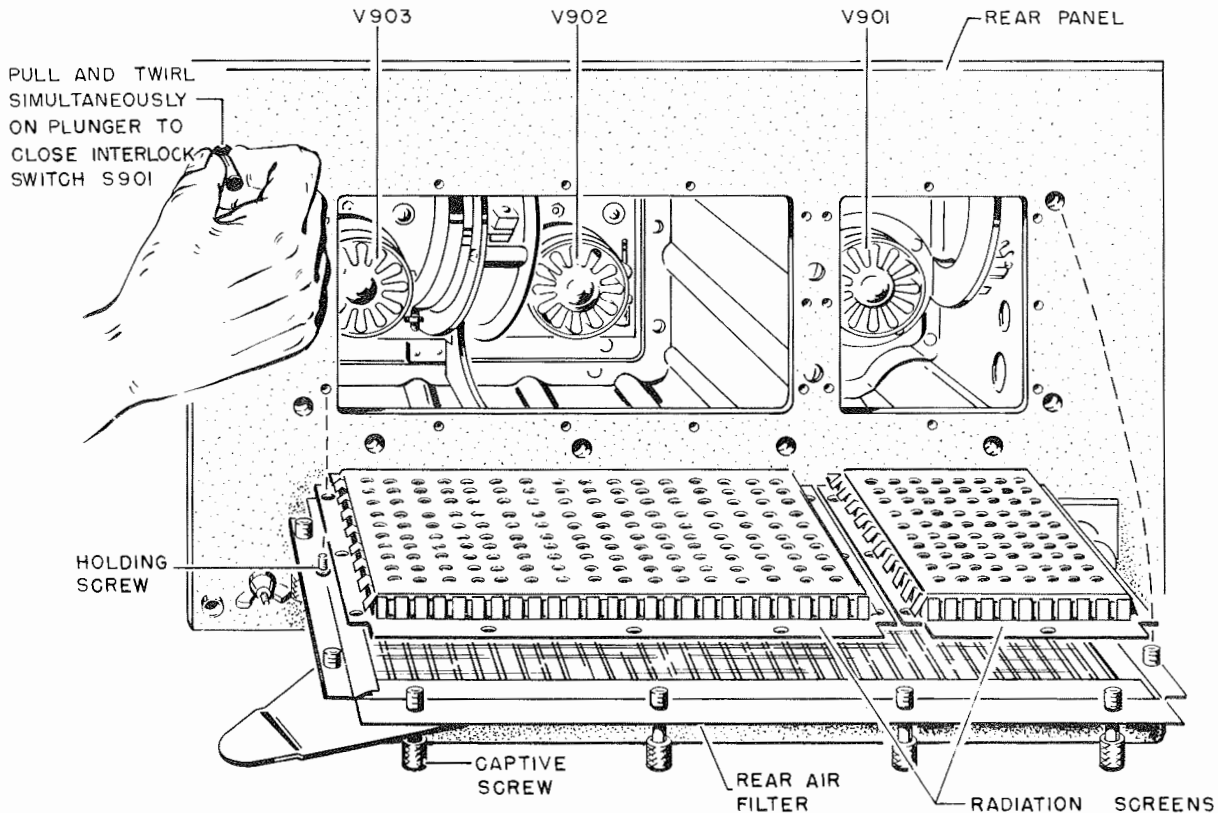

Figure 5-15. Radio Transmitter, Removal of Rear Air Filter, Tube Location, and Emergency Operation of Rear Air-Filter Interlock Switch
b. Turn the "PLATE" switch to the "OFF" position. Remove the air filter, at the rear of transmitter, by loosening its twelve captive screws. Take off the two radiation screens by unscrewing the flat head screws holding them in place (figure 5-15). Close the rear air filter interlock switch (pull out the push rod) and see if the tubes become hot after a few minutes operation. Remove any tube which is cold and replace it with one known to be good.
b. Tubes V901, V902 and V903 are accessible by removing the air filter and radiation screens at the rear of the transmitter (figure 5-15). Loosen the knurled thumb nut holding the metal strap around the plate of the tube. Place the fingers around the tube and pull it gently out of the tube socket. If the tube does not release easily, rock it slightly and pull out.
e. Set "METER 1 SELECTOR SWITCH" on "6." If a reading is observed on "METER 1," proceed with the next step. If no reading is observed, check tuning of "DRIVER PLATE" and "PA GRID" controls. Replace tubes V901, V902 and V903, one at a time (figure 5-15). Replace tubes V101 and V102 (in the modulator-power supply). If the set does not operate after replacing the above tubes, it requires servicing by maintenance personnel.